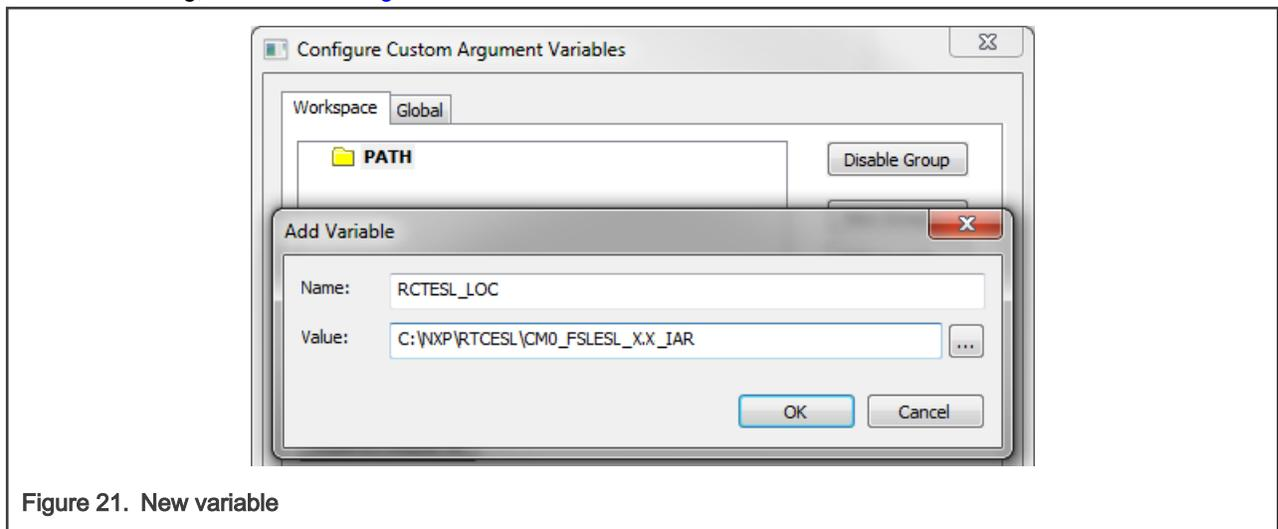

Figure 21. New variable
6. In the main dialog, click OK. See Figure 21.